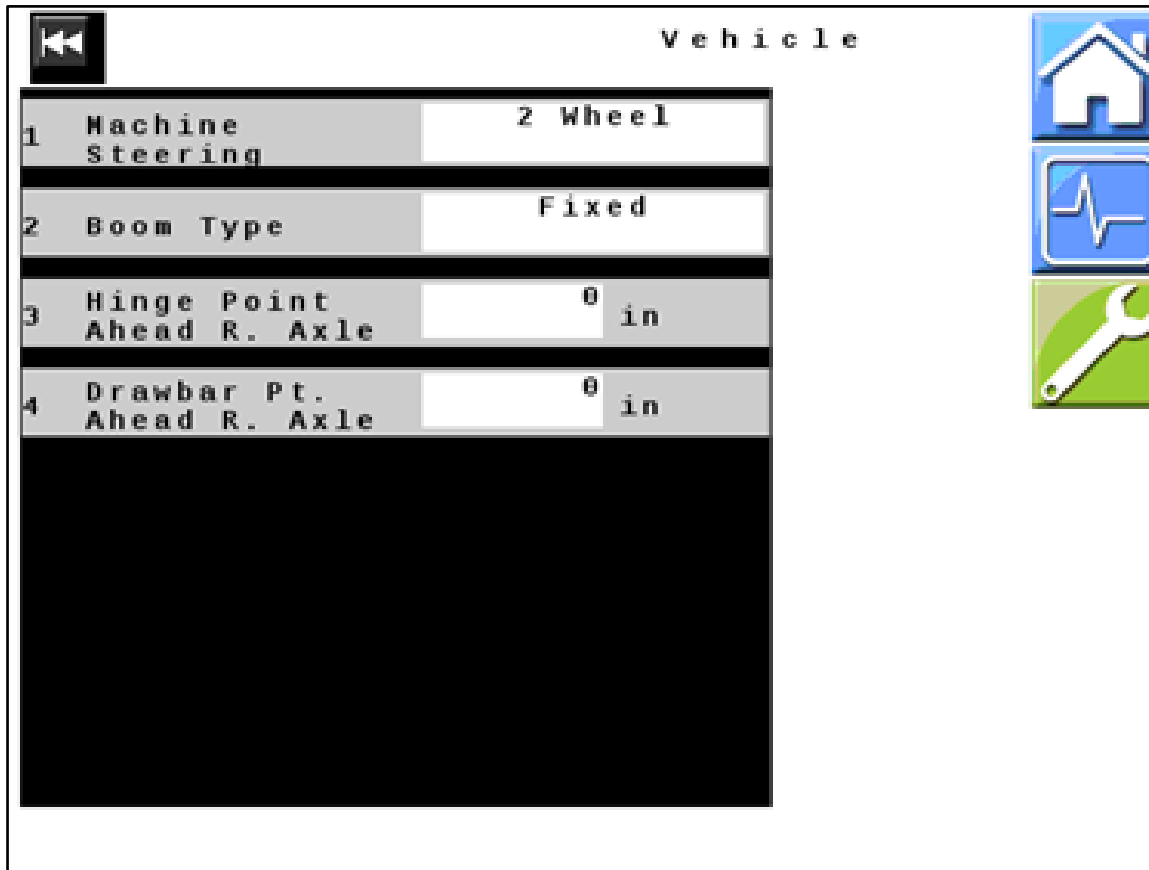

Figure 20 — Vehicle
34. *Figure 20*: Verify that all values displayed on your unit match those shown here. Change values if necessary.